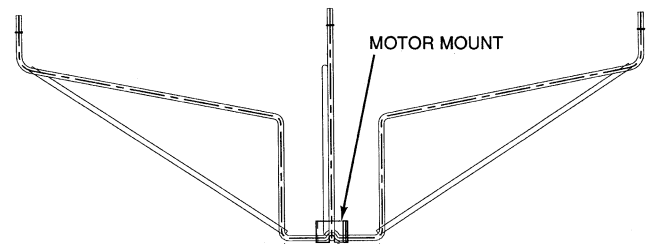

Fig. 3 — Motor Mount Location
5. Replace the existing motor mount (see Fig. 3) with motor mount provided in the accessory package.
5. Replace existing motor mount (see Fig. 3) with motor mount provided in the accessory package.